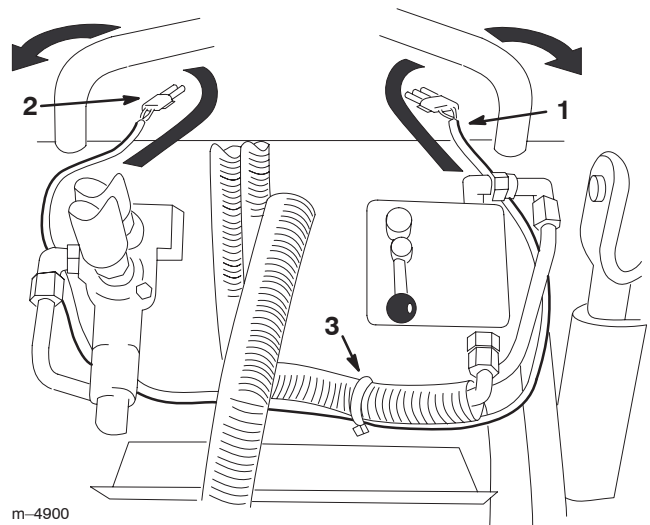

Figure 7
3. Route the lighting wire harness to the sides of the traction unit and up to the top of the control panel (Fig. 7).
5. Secure the wire harness to the hydraulic line connected to the bottom of the flow divider with a plastic tie (Fig. 7).